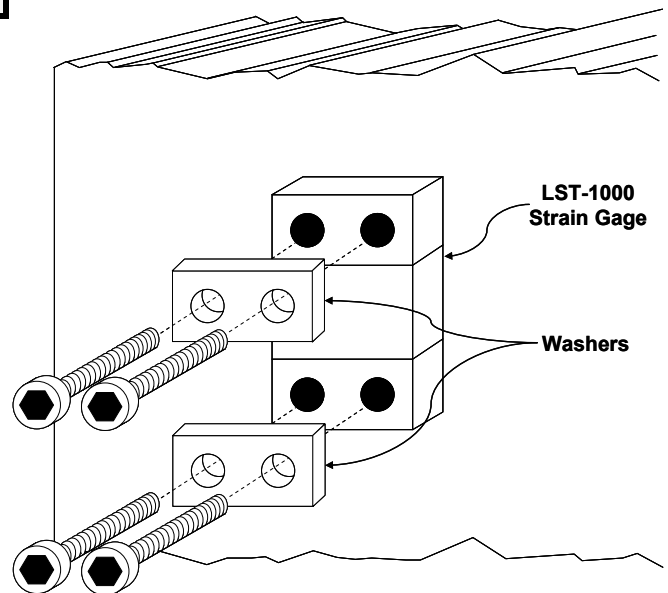

Figure 24: LST-1000 Strain Gage Mounting
- 7) Mount the strain gage as shown in Figure 24. Make certain that the washers provided with the strain gage kit are placed **over** the strain gages, **not under them**. Torque the 1/4 x 28 bolts to 150 in-lbs. A calibrated torque wrench is the preferred tool to torque the bolts.